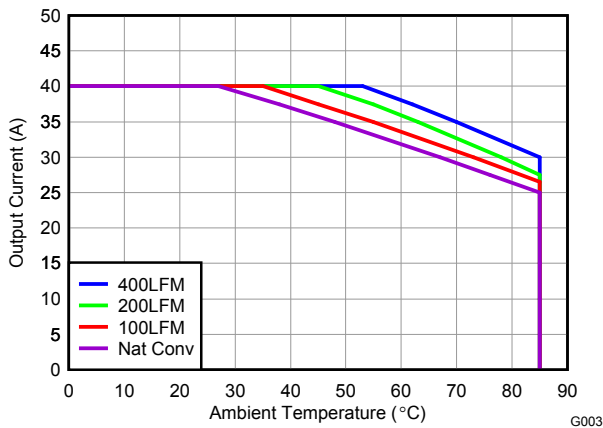
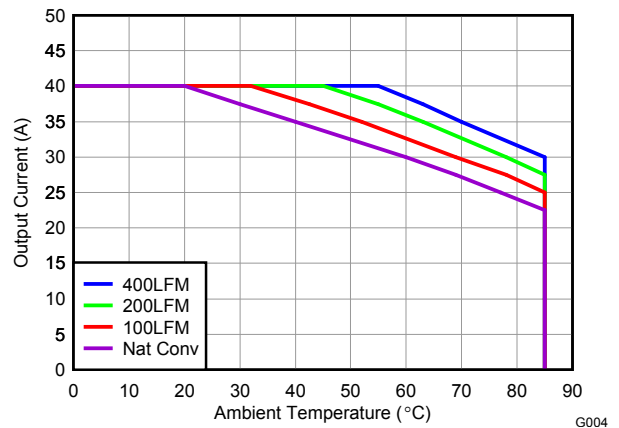
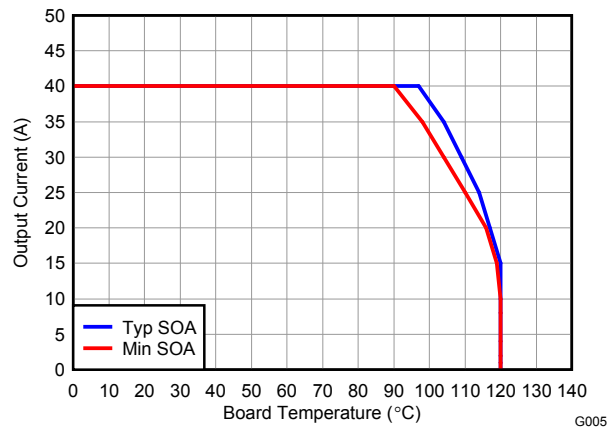

Figure 9. Safe Operating Area – PCB Vertical Mount (1)
Figure 10. Safe Operating Area – PCB Horizontal Mount (1)
Figure 11. Typical and Min Safe Operating Area (1)
The SOA curves in the CSD96370Q5M datasheet give engineers guidance on the temperature boundaries within an operating system by incorporating the thermal resistance and system power loss. Figure 9, Figure 10, and Figure 11 outline the temperature and airflow conditions required for a given load current. The area under the curve dictates the safe operating area. All the curves are based on measurements made on a PCB design with dimensions of 4.0" (W) x 3.5" (L) x 0.062" (T) and 6 copper layers of 1 oz. copper thickness.